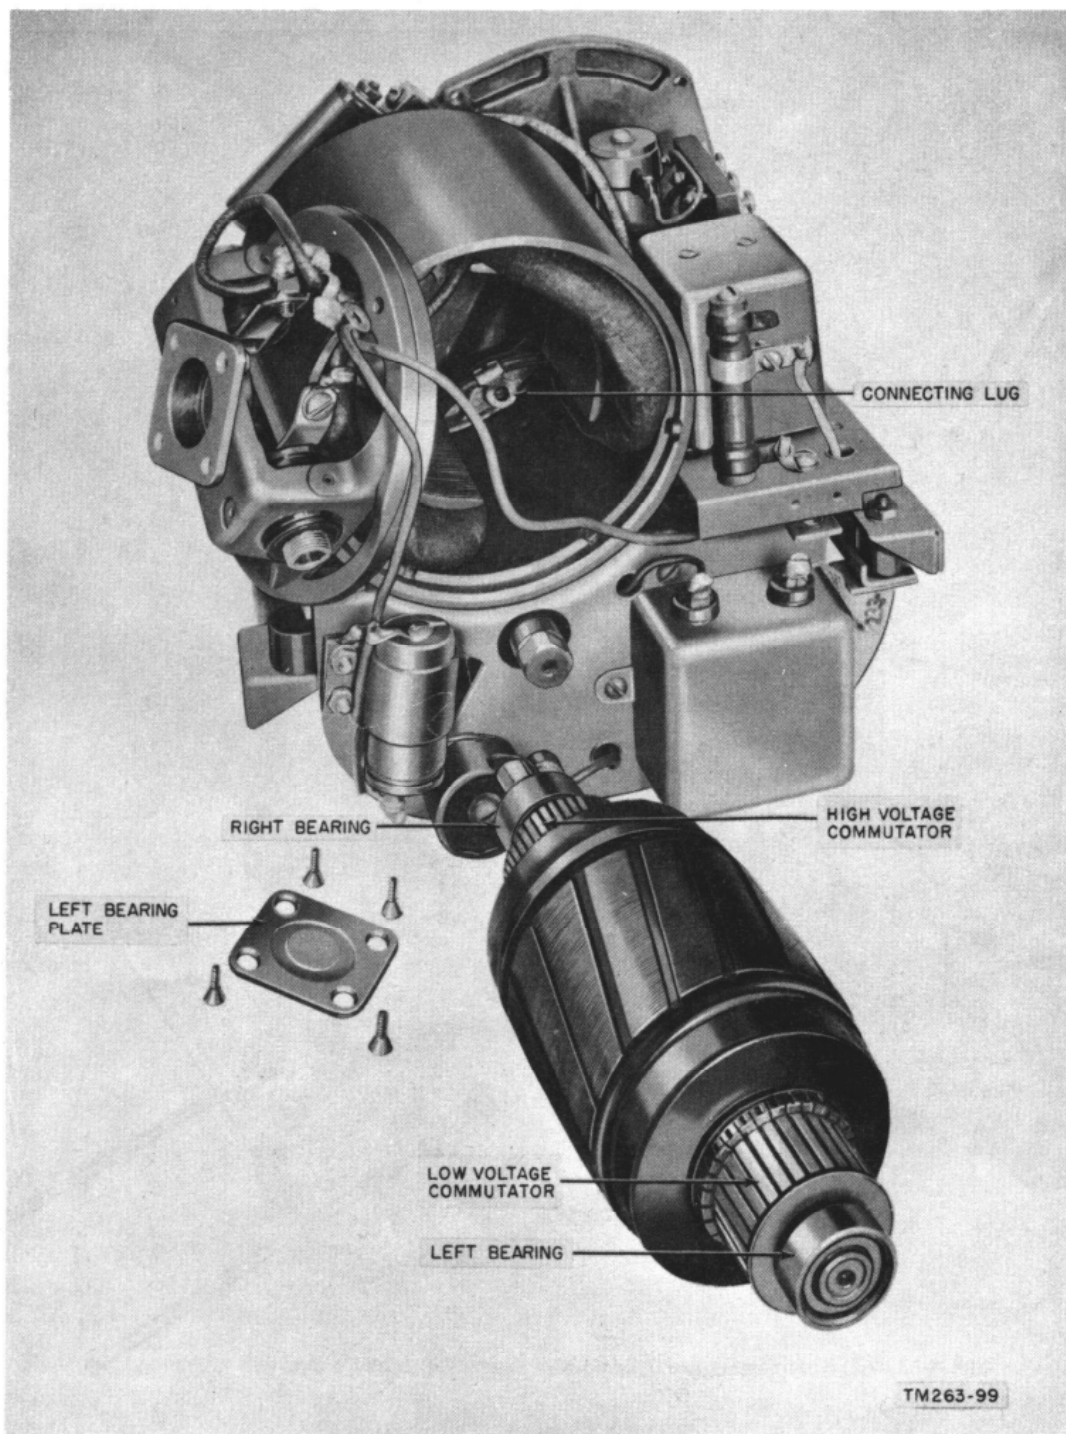

Figure 155. Armature removed from generating unit of Generator GN-58-(*).
g. Now pull the armature gently through the generating unit (fig. 155).